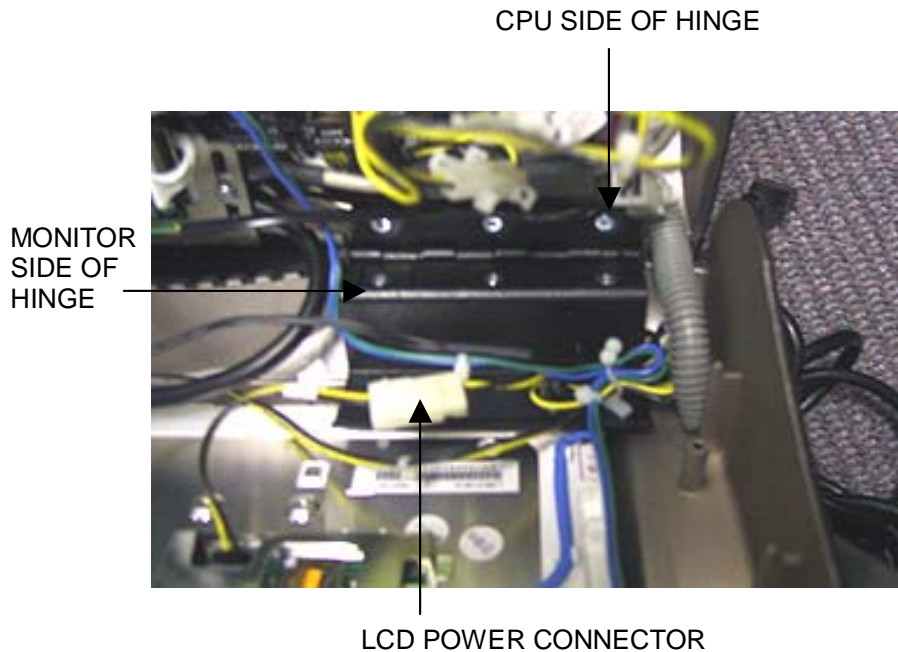

FIGURE 2 - CLOSE-UP OF MONITOR HINGE
7. Disconnect the LCD power connector (black and yellow wires). See Figure 2.
10. Loosen the 6 screws (3 per hinge) on the monitor side of the hinges in order to raise the hinges and allow room to remove the monitor. See Figure 2.
3. Carefully slide the new monitor into the bezel, making certain that the white edge of the monitor and the monitor wire connections are facing the bottom of the bezel. Ensure that the monitor is properly centered, then tighten the hinge screws. See Figure 2.
8. Connect the LCD power connector (black and yellow wires). See Figure 2.